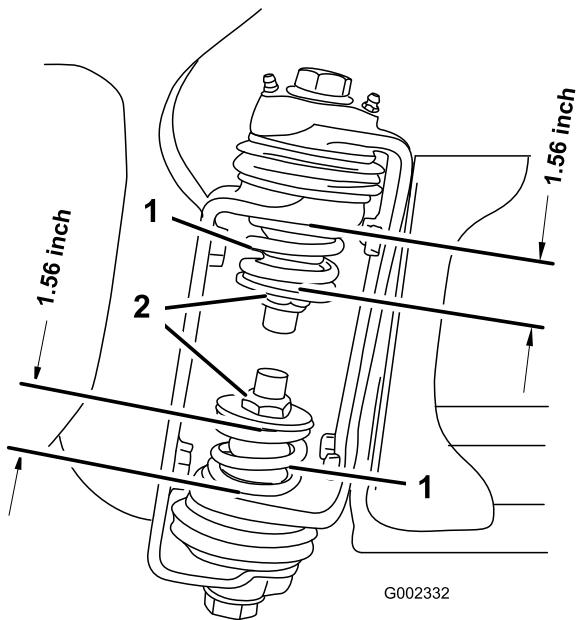

Figure 49
3. At the boom hinge, measure the compression of the upper and lower springs while the booms are in their extended position (Figure 49).